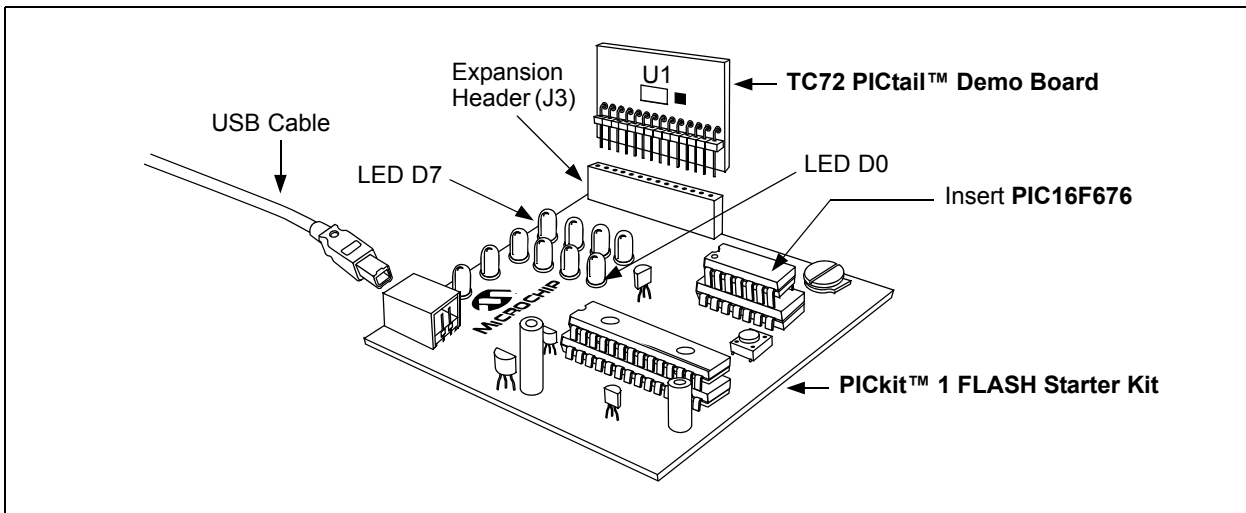
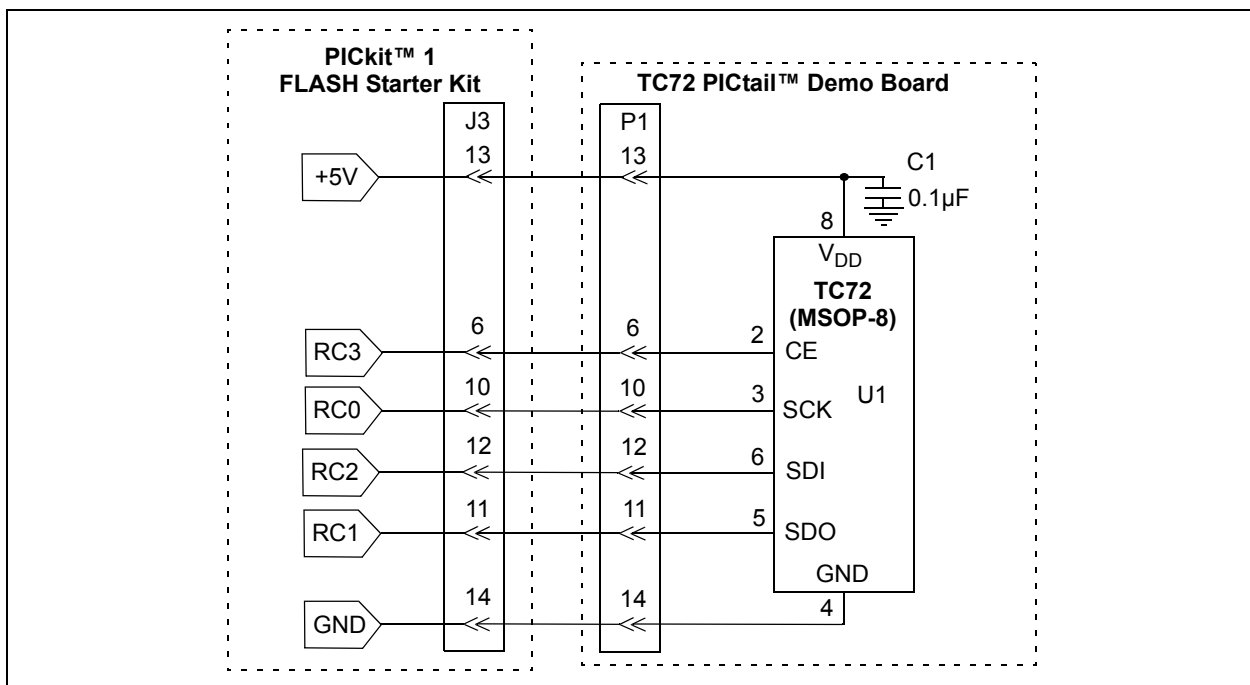

FIGURE 2-2: TC72 Digital Temperature Sensor PICtail™ Demo Board and PICKit™ 1 FLASH Starter Kit.
FIGURE 2-3: Simplified TC72 Digital Temperature Sensor PICtail™ Demo Board Schematic.
1. Connect the P1 header of the TC72 Digital Temperature Sensor PICtail™ Demo Board to the J3 connector on the PICKit 1 Flash Starter Kit board. Refer to Figure 2-2 for proper orientation of the TC72 Digital Temperature Sensor PICtail™ Demo Board and Figure 2-3 for the simplified board schematic.